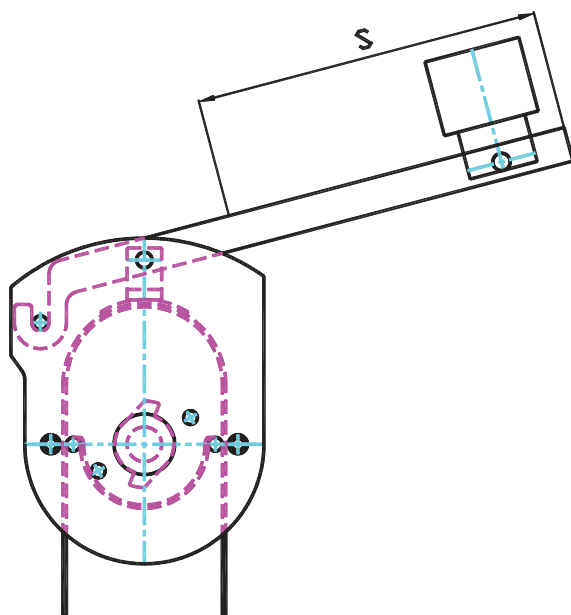

Figure 5.2.2
- After the coffee is fed into the sample huller, the cover shall press by itself. Then fit the counterweight to adjust the pressure of the cover properly. (Figure 5.2.2)